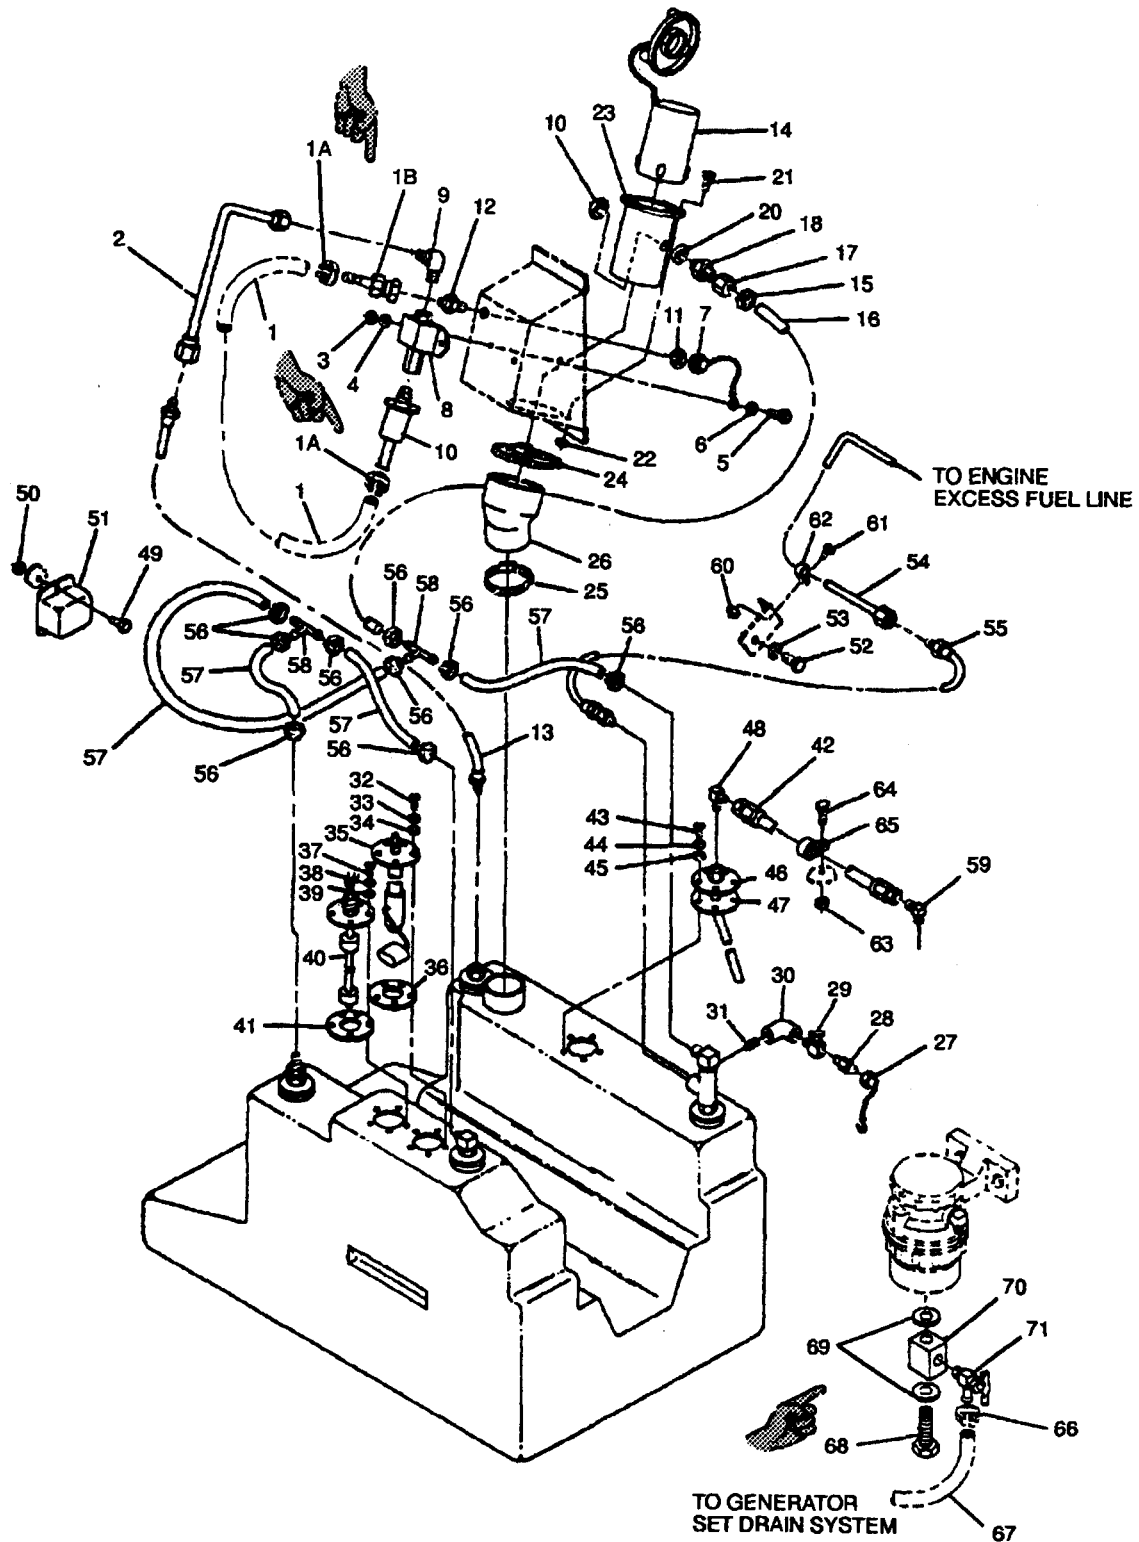

FIGURE 2-26. Fuel Tank Filler Neck and Low Pressure Fuel System
- c. Identify fuel line (1, 2, 13, 16, 42, 54, 55, or 57, FIGURE 2-26) or fitting (9), (10), (12), (18), (28), (30), (31), (48), (58), or (59) that is damaged or leaking and must be removed.
- d. Remove nut (60) or (63), bolt (61) or (64), or clamp (56), (62), or (65) as necessary.
- a. Remove any caps and position fuel line (1, 2, 13, 16, 42, 54, 55, or 57, FIGURE 2-26) or fitting (9), (10), (12), (18), (28), (30), (31), (48), (58), or (59) in generator set.
- b. Connect fuel line at both ends, and install clamp (56), (62), or (65), bolt (61) or (64), or nut (60) or (63) as necessary.
- b. Inspect auxiliary fuel pump (8, FIGURE 2-26) for leaks, cracks, missing hardware, loose connections, and other damage.
- d. Disconnect auxiliary fuel pump outlet line (13, FIGURE 2-26) at fuel tank fitting and place disconnected end in measuring container.
- h. Connect auxiliary fuel pump outlet line (13) at fuel tank fitting.
- d. Tag and disconnect auxiliary fuel pump (8, FIGURE 2-26) electrical connector.
- e. Loosen dams (1a). Disconnect filter (10) and remove adapter fitting (1b) from filler neck panel fitting (12). Remove adapter fitting (1b) from fuel inlet hose (1). Remove filter (10) from auxiliary fuel pump (8). Cap fuel inlet hose (1).
- f. Disconnect auxiliary fuel outlet line (2) from auxiliary fuel pump (8).
- g. Remove nuts (3), lockwashers (4), bolts (5), washers (6), cap and chain assembly (7), and auxiliary fuel pump (8).
- h. Remove fitting (9) from auxiliary fuel pump.
- i. If necessary, remove nut (11) and fitting(12) from fuel filler panel.
- a. If removed, install fitting (12, FIGURE 2-26) and nut (11) in fuel filler panel.
- b. Install fitting (9) to auxiliary fuel pump (8).
- c. Install auxiliary fuel pump (8) and cap and chain assembly (7) in generator set with bolts (5), washers (6), lockwashers (4), and nuts (3).
- d. Connect auxiliary fuel outlet line (2) to auxiliary fuel pump (8).
- e. Remove caps from fuel inlet hoses (1). Install filter (10) on auxiliary fuel pump (8). Install adapter (1b) on fuel inlet hose (1) and connect adapter fitting (1b) to filler neck panel fitting (12). Connect other end of fuel inlet hose to filter (10). Tighten dams (1a).
- c. Remove cap (27, FIGURE 2-26), open fuel drain valve (29) and drain fuel into suitable container.
- e. Remove filler neck cap and tube assembly (14).
- f. Loosen damp (15) and disconnect hose (16) from adapter (17).
- g. Remove adapter (17) from fitting (18).
- h. Remove nut (19), washer (20), and fitting (18) from side of filler neck (23).
- i. Remove bolts (21) and nuts (22) securing filler neck (23) to generator set housing.
- j. Remove dams (24) and (25), hose (26), and filler neck (23) from fuel tank opening. Cover fuel tank opening.
- c. Inspect hose (26, FIGURE 2-26) for cracking, wear, or other damage.
- d. Inspect filler neck (23) for corrosion, cracking, or other damage.
- e. Inspect filler neck cap and tube assembly (14) for damage.
- a. Position hose (26, FIGURE 2-26), dampers (24) and (25), and filler neck (23) on fuel tank.
- b. Install bolts (21) and nuts (22) securing filler neck (23) to generator set housing.